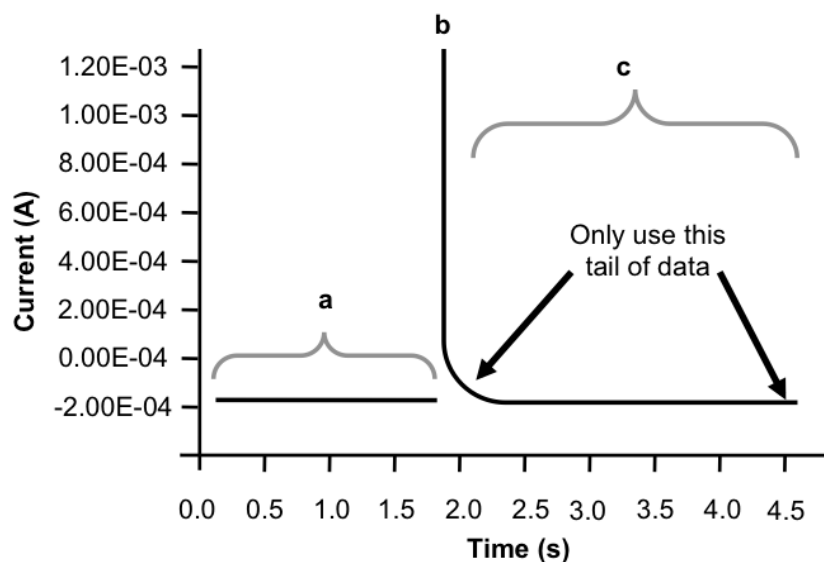
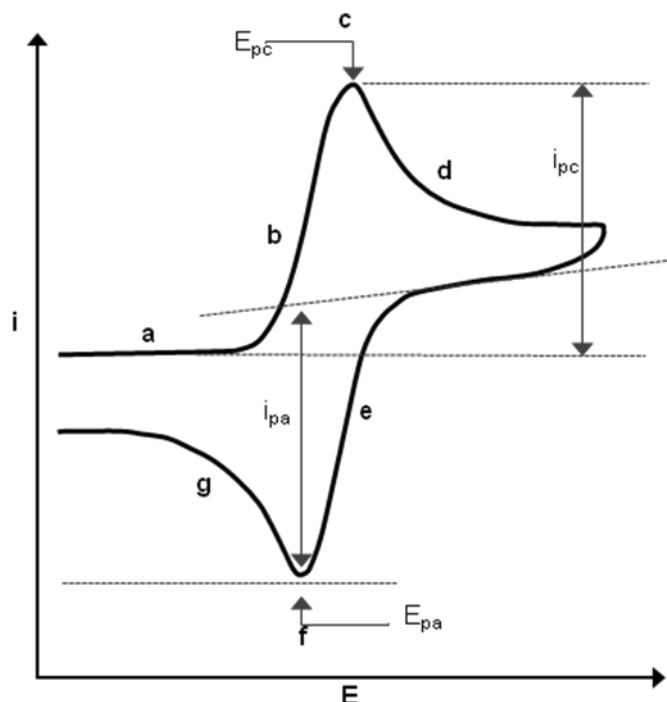

Figure 4: Chronoamperogram.
Figure 5: Cyclic Voltammogram.
2. Open the chronoamperometry file using Excel. The first column of data is *time* (s) and the second column is *current* (A). Your first set of data corresponds to “Step 1” where the potential was held at 0.45 V. Approximately halfway down each column of values there is a message (text) indicating the start of “Step 2” where the potential was stepped to 0.1 V. Delete this line of text in the center of the data file.
3. Make a scatter plot to graph the current (A) vs. time (s). This graph should look similar to Figure 4.
- Only the data in the *diffusive tail* (points from later times toward the end of “Step 2”, portion “c” in Figure 4) contains useful diffusion information. Copy the time and current columns of the “Step 2” data (the time range of 2.0 – 4.5 seconds in Figure 4). Paste the copied data into two new columns, and redefine the time when “Step 2” starts as $t = 0$ seconds, and adjust the remainder of the time scale accordingly by subtracting 2 seconds from each original time point. During the first several of hundred milliseconds, current is affected by other factors in addition to diffusion. Therefore, delete all data in your second data set for $t < 400$ ms, so that the only remaining data is the *tail* of the curve (due to diffusion and described by the Cottrell equation).
graph should look similar to Figure 5 (below). *If you have extra data points at the beginning or end of the scan that are not part of the duck, you may delete them.*
1. (a) Explain what is happening in each region of the *ferricyanide chronoamperometry* scan (Figure 4, regions a-c). (b) Explain what is happening in each region of the *ferricyanide cyclic voltammogram* (Figure 5, regions a-g).